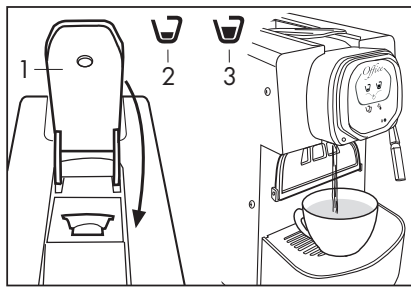

Fig. 9
**Before inserting the capsule, slowly and completely lift the control lever (1) located on the top of the machine to eject the old capsule. For correct hygiene and to maintain high product quality it is advisable to eject the capsule immediately after dispensing.**
- Completely close the lever (1), press a dispensing button (2-3-4) depending on the according to taste, and press it again to stop dispensing when the desired quantity of coffee or beverage is reached (**Fig. 9**). In case of difficulty in closing the lever, completely open it and close it again.
- To make a long coffee (Americano) press the delivery symbol (4)
- To extract the capsule, slowly lift the lever (1). If the capsule is not ejected, repeat the operation or press the dispensing symbol (2-3-4) and lift the lever (1) at the same time.